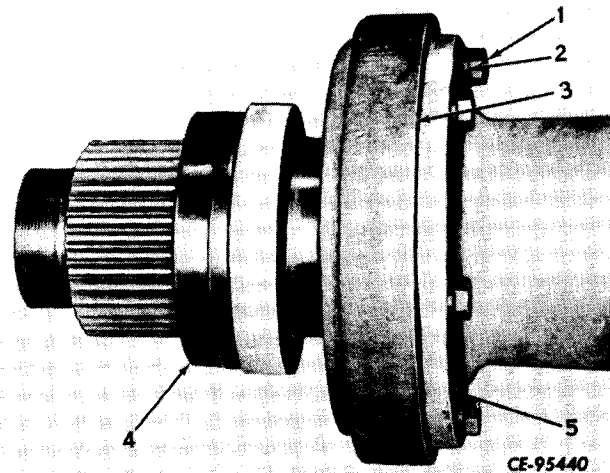

Figure 6-10
Remove cap screws (1, Fig. 6-10) and lock washers (2) that secure guard (3) to flange of axle housing (5). Remove guard (3).